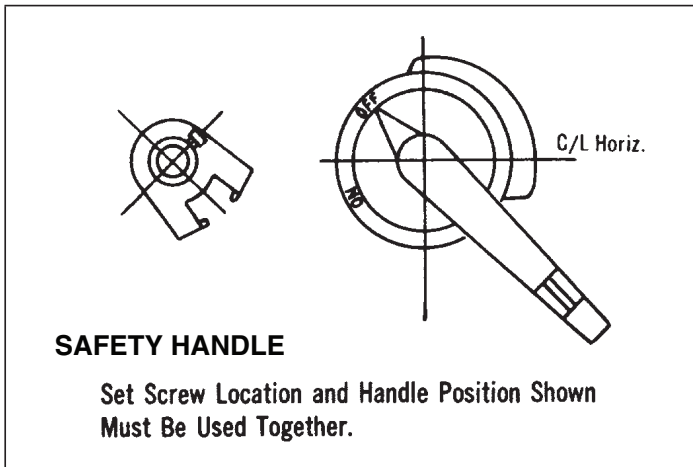
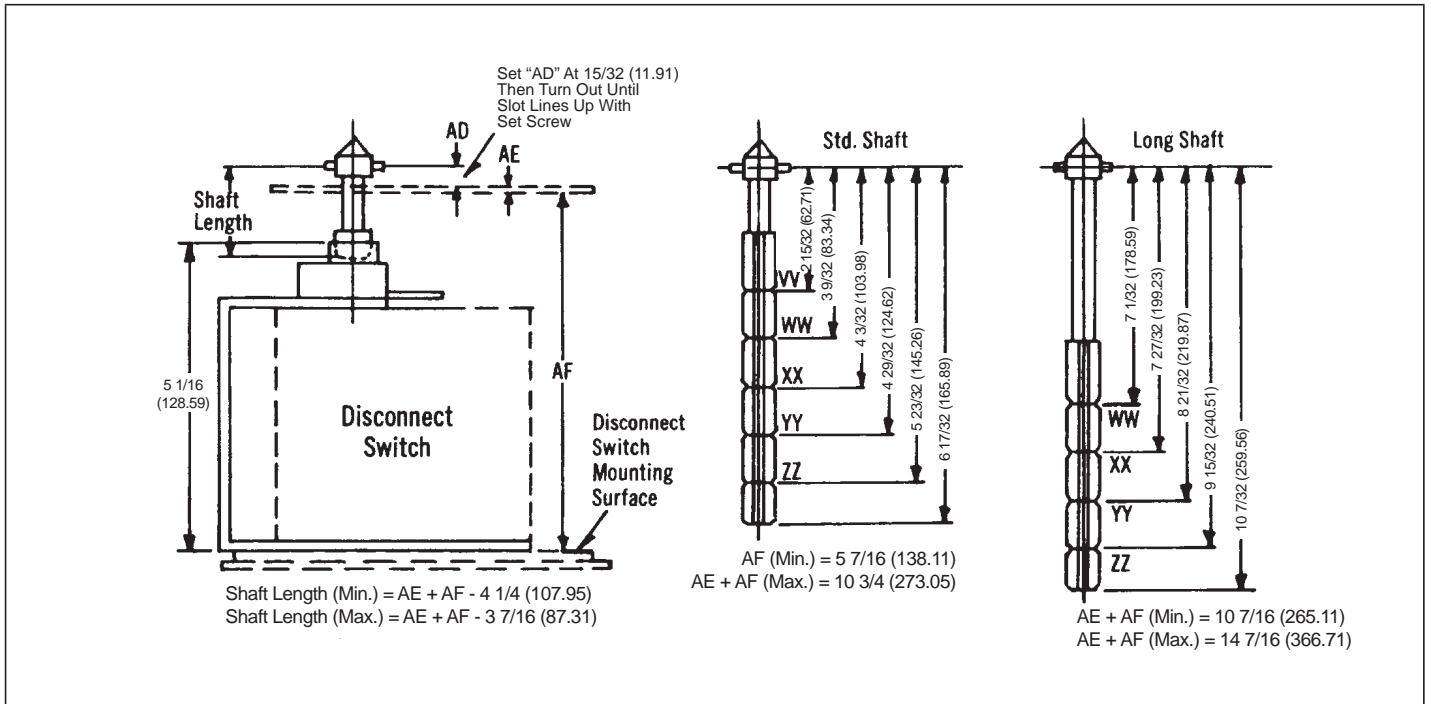

Fig. 3. Horizontal Mounting.
Fig. 9. Determining Shaft Length.
**Table 1. Use Only For Handle Pos. Fig. 3.**
4. Determine vertical or horizontal mounting of operating handle. Set "AD" as shown in Figure 9 and lock shaft (6) with set screw (7) and a commercially available thread locking adhesive per Figures 3 or 4.
5. Assemble operating handle assembly (8) to cover using three 1/4-20 X 7/16 screws provided per Figures 3 or 4, as desired.